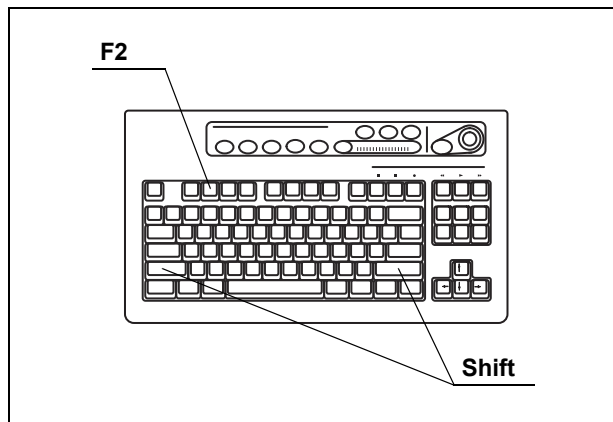
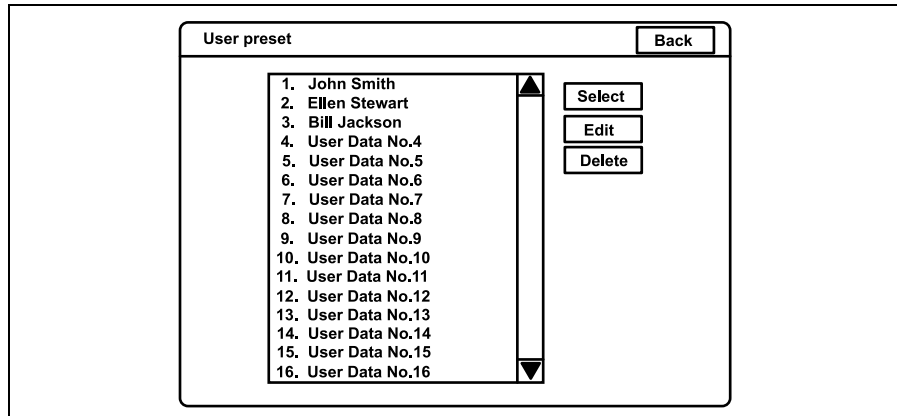
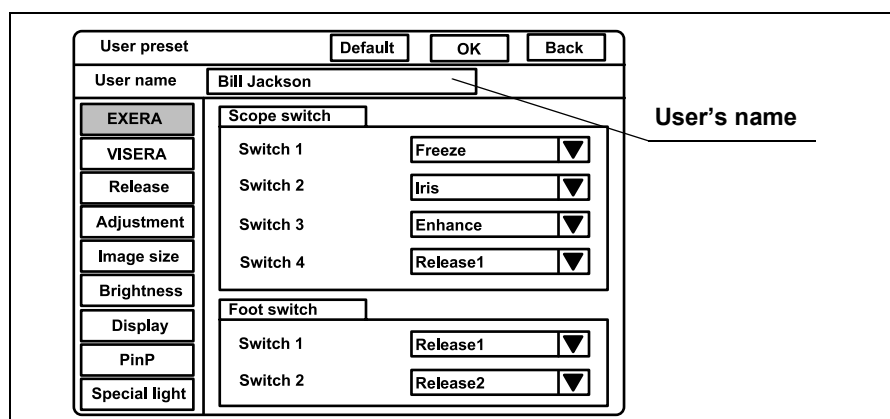

Figure 9.12
Figure 9.13
Figure 9.14
1. Press the “Shift” and “F2” key together (see Figure 9.12). The “User preset” menu appears on the monitor (see Figure 9.13).
3. Click “EDIT” on the right side of the screen (see Figure 9.13). The edit screen of the user preset menu appears (see Figure 9.14).